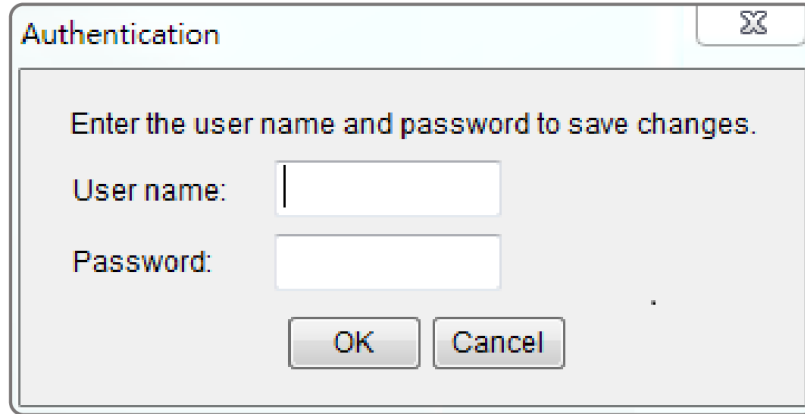

Figure 3. Authentication window.
7. You will need to enter a User Name and Password for the Network Power Management Card in the authentication window, as shown in Figure 3.